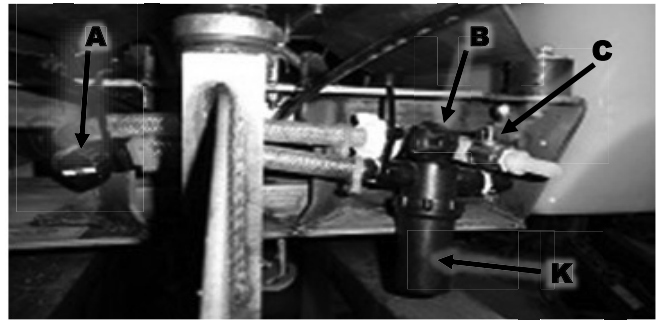
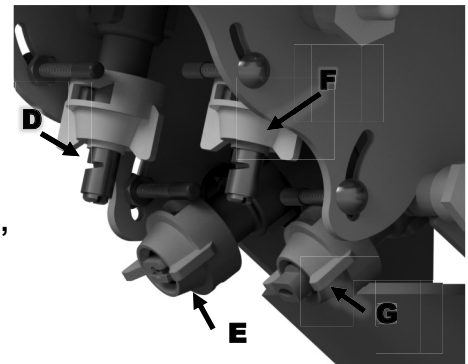
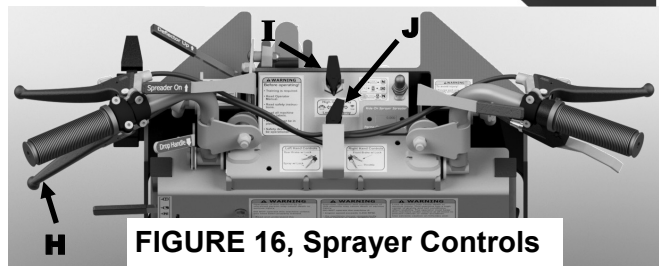

FIGURE 14, Unloader and Shutoff
FIGURE 15, Nozzles
FIGURE 16, Sprayer Controls
The spray pattern and spray rate are controlled by the engine speed, pump pressure, and the nozzle orifice. Referring to **FIGURE 14:** A Pressure Unloader Valve (A) at the lower right rear of the front frame controls pump pressure. There is a Suction Shutoff Valve (B) located at the lower left rear of the front frame. The Drain Valve (C) can be used to flush the spray system, drain the tanks or fill the Spot Sprayer bottle (included). The Tanks are connected together by common Suction and Return flow plumbing to provide a total capacity of **12 U.S. GALLONS** (45.4 liters). **NOTE:** The Triumph is not capable of selectively drawing from only one Tank. Referring to **FIGURE 15:** There is a pair of low drift nozzles (broadcast (D) & trim (E)) for use while in **LOW GEAR**, and a second pair of low drift nozzles (broadcast (F) and trim (G)) for use in **HIGH GEAR**. [If the Half Gallon Nozzle Kit is installed, the **LOW GEAR** Broadcast Nozzle is replaced by a second **HIGH GEAR** Nozzle and
Referring to **FIGURE 16:** A Spray Lever (H) with lock is mounted on the left handle which allows the operator to spot spray the liquid product while blanket covering the area with granular product. Dashboard mounted Spray Selector Valves (I) control which selects High gear Broadcast and Trim Nozzles. Spray Valve (J) selects Low gear Broadcast and Trim Nozzles. Referring to **FIG. 14:** The Line Strainer (K) and Valve (A).
- To select which nozzle will spray, point the Spray Control Valve handle for the gear selected to the desired nozzle either Broadcast or Trim. The front Spray Selector Valve (I) is used for HIGH GEAR and the rear Spray selector Valve (J) for LOW GEAR. Point Valve Handle left for Broadcast spraying, right for Trim spraying, and forward to prevent spraying for either nozzle.
- To begin momentary spraying, pull the Spray Lever (H) (FIGURE 16) toward the handgrip.
- Referring to FIGURE 15, select the HIGH GEAR Broadcast Nozzle (TF-VS 7.5-90 color coded with a green band) by turning the front Spray Control Valve (I) handle to the left. The rear Spray Selector Valve handle (J) must be pointed forward turning off the LOW GEAR nozzles. [If the Half Gallon Nozzle Kit is installed, both Broadcast Nozzles will be used simultaneously.]
- Referring to FIGURE 15, select the HIGH GEAR Trim Nozzle (DG Tee Jet 9504 EVS color coded red) by turning the front Spray Selector Valve handle (I) to the right. The rear Spray Selector Valve handle (J) must be pointed forward turning off the LOW GEAR nozzles.